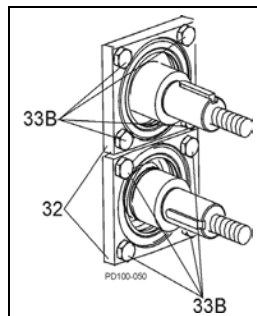

Figure 41 - Remove Bearing Retainers
3. Remove front bearing retainer bolts (Figure 41, item 33B) and pull off bearing retainers (item 32). (Stuck retainers will press out when shaft is removed.)